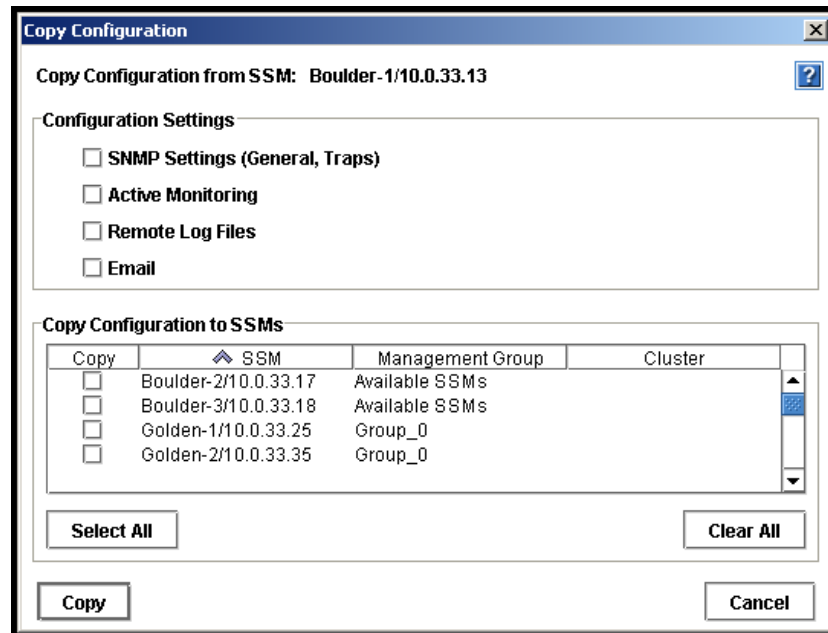

Figure 26. SSM Copy Configuration Window
2. Right-click and select Copy Configuration. The Copy Configuration window opens, as shown in Figure 26.